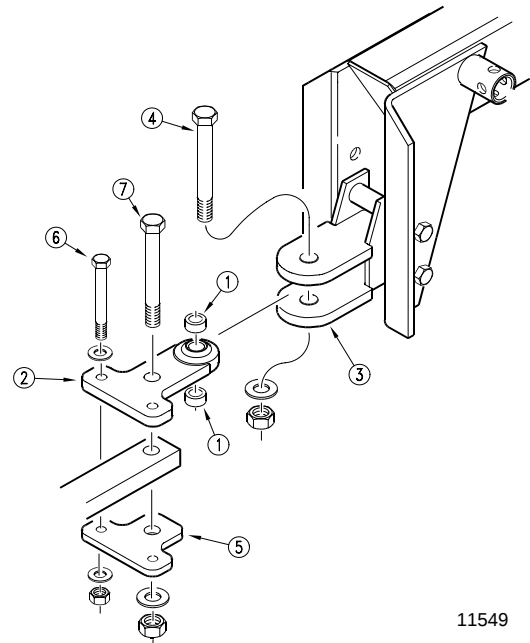

Figure 1-3
3. When drill hitch matches tractor-drawbar height, hitch drill to tractor. Refer to Figure 1-3.
- a. Place a spacer tube (1) above and below ball swivel.
- b. Bolt ball-swivel plate (2) and spacers to drill hitch (3) with a 1-by-5-inch bolt (4), flat washer and nylock nut.
- d. Align rear hole in ball-swivel plate with large hole in drawbar. Place lower hitch plate (5) under drawbar. Bolt lower hitch plate to ball-swivel plate using two 5/8-inch bolts (6), flat washers and nylock nuts.
- e. Bolt ball-swivel plate through hole in drawbar to lower hitch plate with 1-by-5 1/2-inch bolt (7), flat washer and nylock nut.